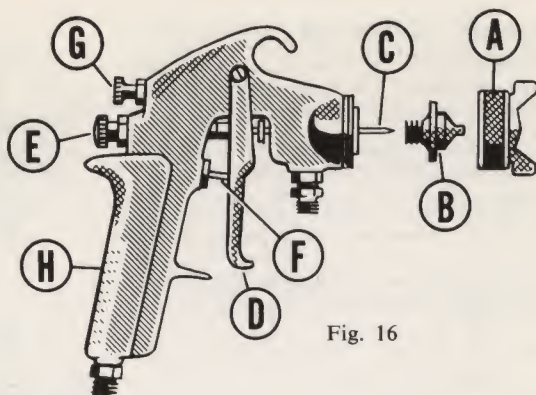
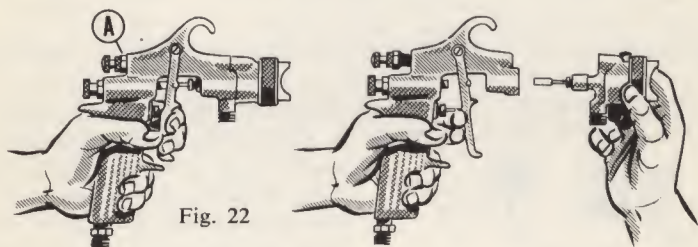

Fig. 16
Fig. 22
The principal components (Fig. 16) are the Air Cap (A), Fluid Tip (B), Fluid Needle (C), Trigger (D), Fluid Adjustment Screw (E), Air Valve (F), Spreader Adjustment Valve (G) and Gun Body (H). Guns equipped with a removable sprayhead will also have a locking bolt. (See Fig. 22.)
A valve for controlling the air to the horn holes which regulate the size of a spray pattern from maximum width down to a narrow or round pattern. (See Fig. 16.)
This adjustment controls the travel of the fluid needle which allows more or less material through the fluid tip. (See Fig. 16.)
Hold gun in left hand (Fig. 22) and pull trigger all the way back. Loosen the locking bolt (A), which holds the sprayhead and the gun body together, and unscrew it from the head. Push the trigger forward as far as possible with back of fingers. Pull the sprayhead forward. To replace, push trigger forward and insert sprayhead. Pull trigger back and tighten the locking bolt.